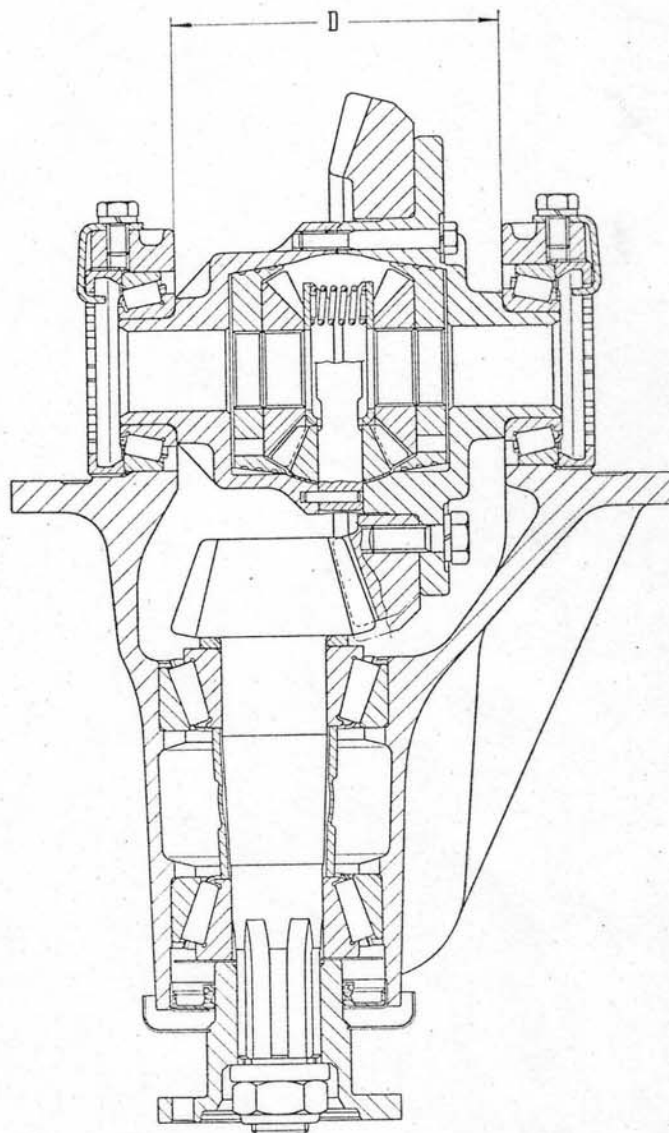
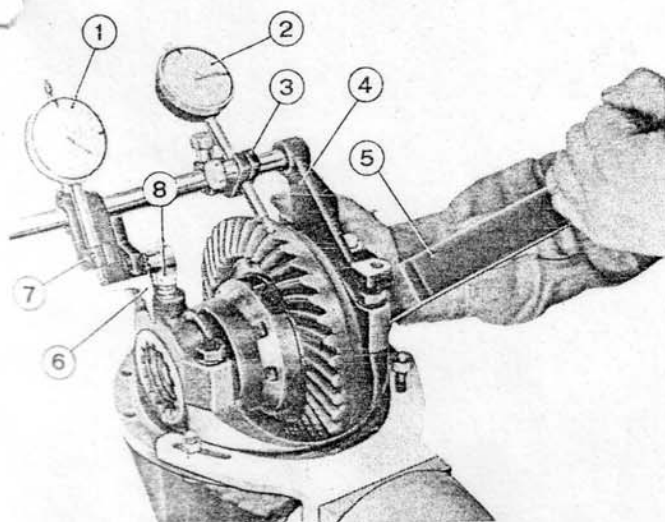

Fig. 78. - Differential cage roller bearing preloading diagram.
Fig. 77. Using fixture **A. 95688** to adjust differential cage bearing preload.
These operations must be carried out at the same time, using fixture **A. 95688** (fig. 77) and wrench **A. 55016**.
The fixture **A. 95688** is secured to the differential carrier by means of a screw and by tightening holder stud (8, fig. 77).
Using wrench **A. 55016** tighten one of the two adjusters: in so doing, the differential carrier pedestals are slightly spread (distance D, fig. 78) and this is shown on dial gauge (1, fig. 77) via cranked lever (6).